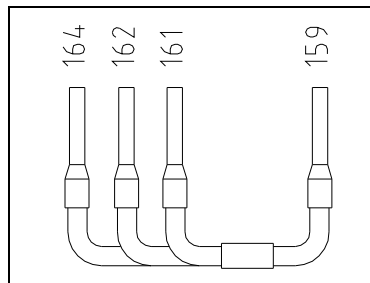

Figure 2.2: AE45/8 Installation
3. Install the AE45/8 to the terminals shown in Figure 2.2 below, ensuring that any existing wires are secure.